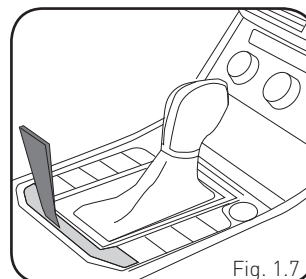

Fig. 1.7
- Using a small panel tool, remove the trim panel located at the base of the shifter. (Fig. 1.7)